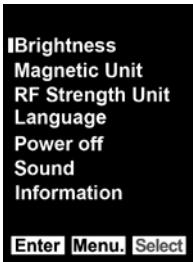

Figure 4 – Main Menu Option Screen
- 6. From the Main Menu screen (Figure 4), the MENU key can be used to exit the Main Menu.